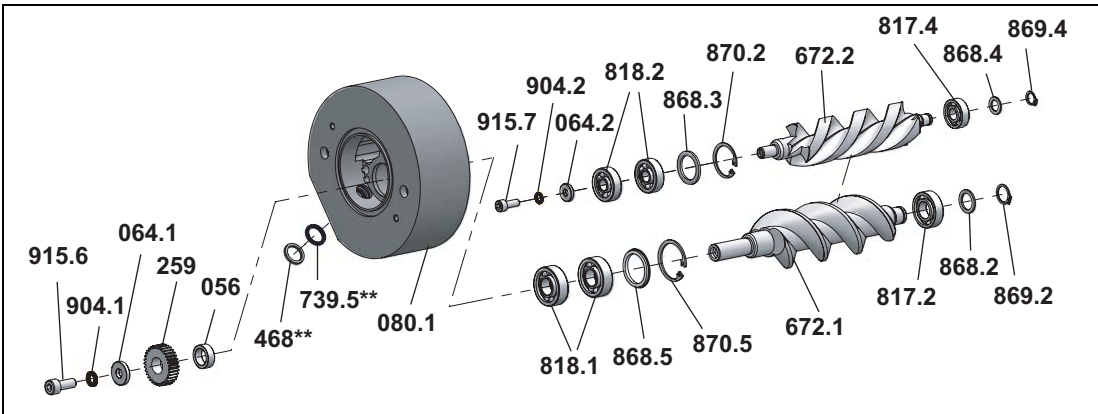

Fig. 17
4. Screw out the socket screw **915.6**. Remove the lock washer **904.1** and supporting disc **064.1**. Overview see Fig. 17, page 33.